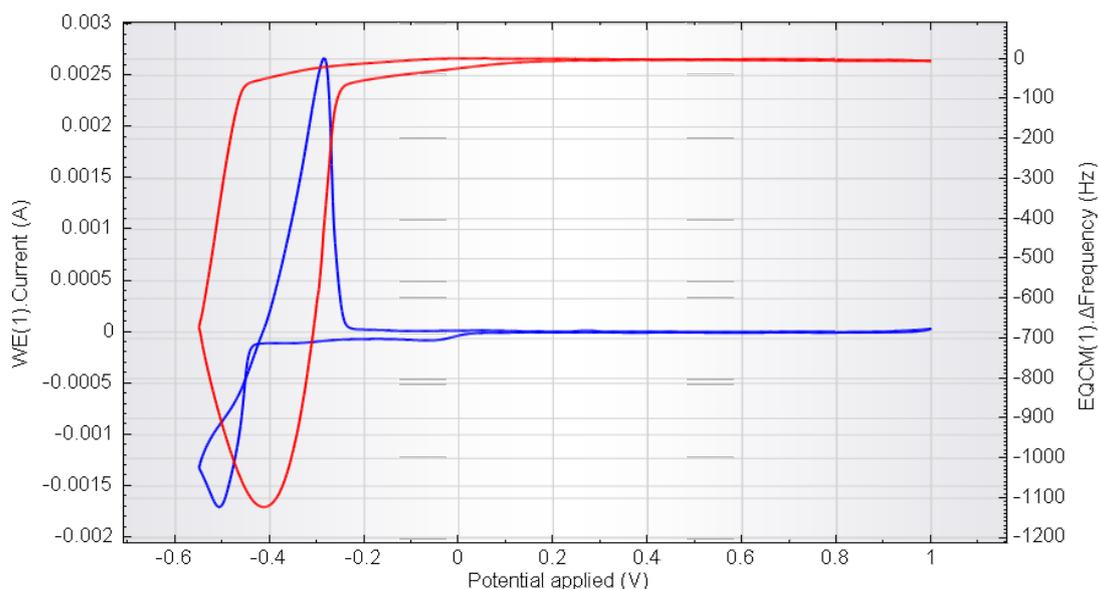

Figure 12 – An example of EQCM cyclic voltammetry recorded using the Cyclic voltammetry with EQCM procedure (blue curve: current, red curve: Δ Frequency)
Figure 12 shows an example of a cyclic voltammogram recorded using the Cyclic voltammetry with EQCM procedure. This example corresponds to the bulk deposition (over-potential deposition) of lead on a gold-coated QCM crystal, from a 0.01 M lead (II) perchlorate solution (HClO₄ 0.1 M). All frequency changes are measured with respect to the zero Δ Frequency which was set while pre-conditioning the working electrode at 0.8 V vs Ag/AgCl (KCl 3 M).